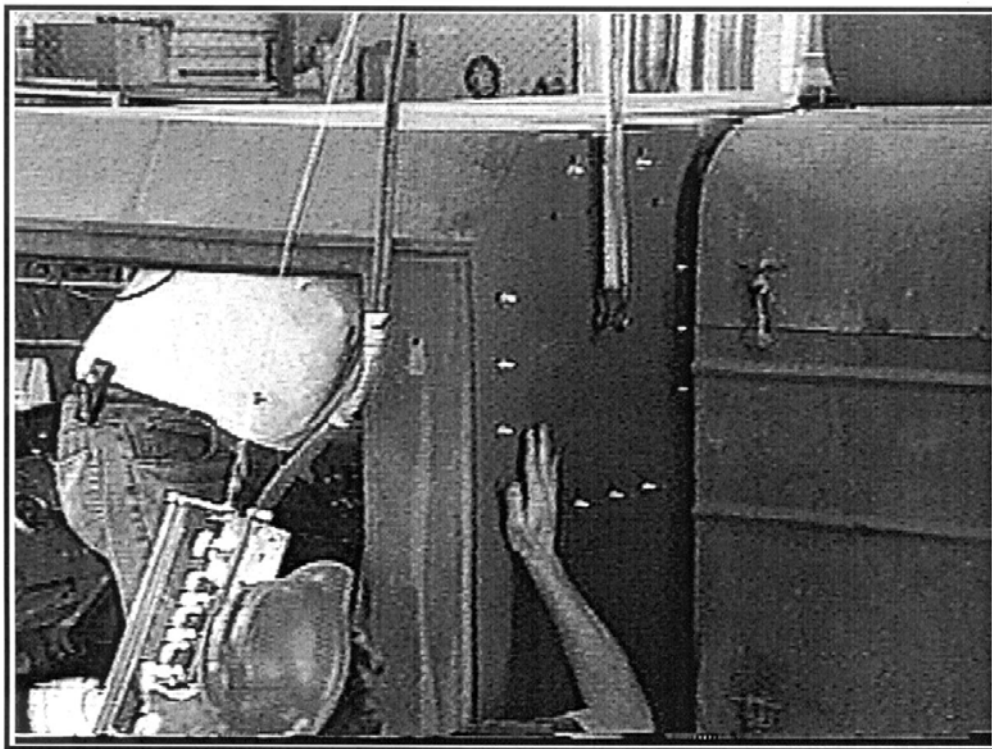

Figure 27. Install Mounting Armor Brackets to the driver's-side rear cab armor panel.
- c. Install four Mounting Armor Brackets (P/N 106734) onto the Rear Cab Armor Panel (P/N 106724-3) (See Figure 27) using 12 washers (3/8 ID), 12 washers (1/4 ID), and 12 locknuts (1/4 – 20). Tighten the locknuts finger tight.